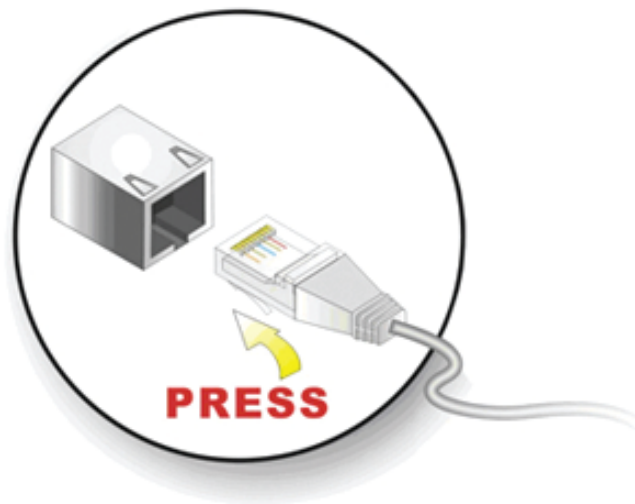

Figure 5-19: LAN Connection
Step 2: Align the connectors. Align the RJ-45 connector on the LAN cable with one of the RJ-45 connectors on the 3308290. See **Figure 5-19**.